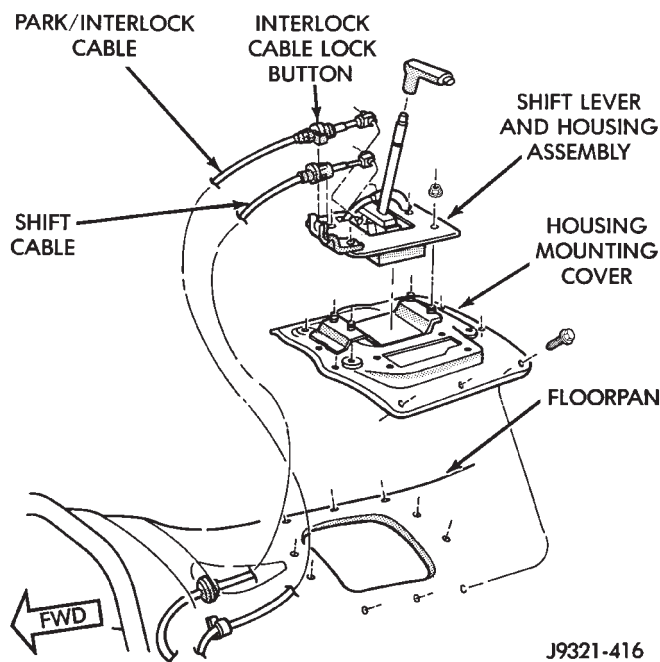

Fig. 358 Shift And Park Lock Cables
(3) Remove shift lever bezel and console screws. Raise bezel and console for access to park interlock cable.
(4) Pull cable lock button up to release cable (Fig. 358).
(5) Pull cable forward. Then release cable and press lock button down until it snaps in place.
(6) Check cable adjustment. With shift lever in Park, ignition lock cylinder should rotate freely from Off to Lock. Cylinder should not rotate in any other shift lever position.
(7) Verify brake/transmission interlock operation:
(8) Shift back into Park. It is not necessary to apply brakes to shift back into Park. Shift lever can be moved into Park with engine off, or running, and the lock cylinder in any position. All that is required, is that shift handle release button be pressed inward before moving shift lever.